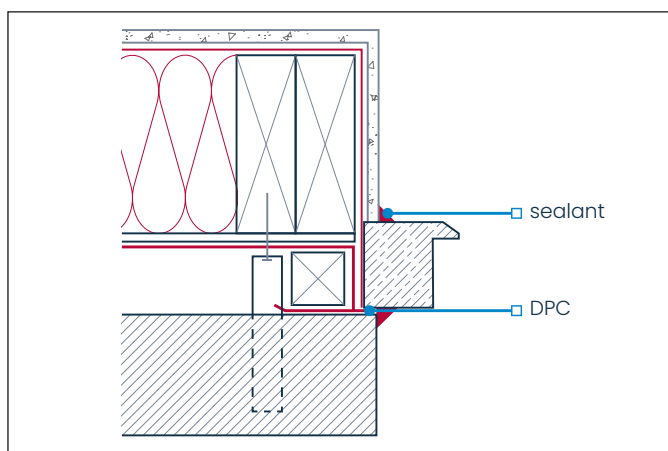

Figure 1 – Timber cavity barrier to window/door jamb
- Timber cavity barriers installed to sill and jambs of window and door openings – timber cavity barriers installed at the jambs and sills of window and door openings should be protected from moisture with a DPC installed over the face in contact with the masonry cladding and lapped into the timber frame window reveal. See Figure 1.